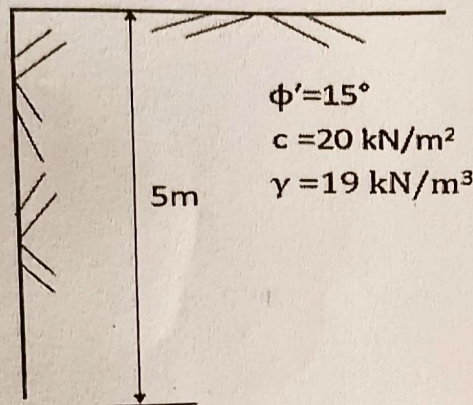

Fig. 2
- (a) Determine the stresses at the top and bottom of the cut shown in Fig.2. Also determine the maximum depth of potential crack and the maximum depth of unsupported excavation. [3+5]-CO2